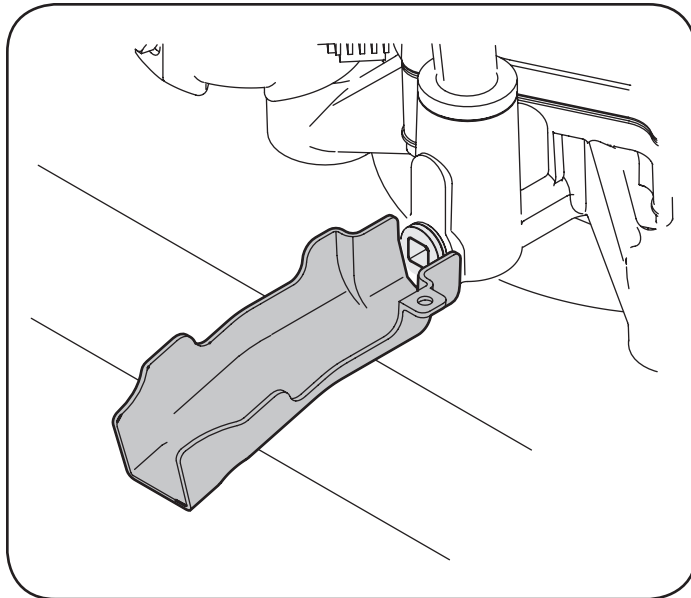

Figure 4
14. Snap the small end of oil drain sleeve onto the oil sump. See “Figure 4”.